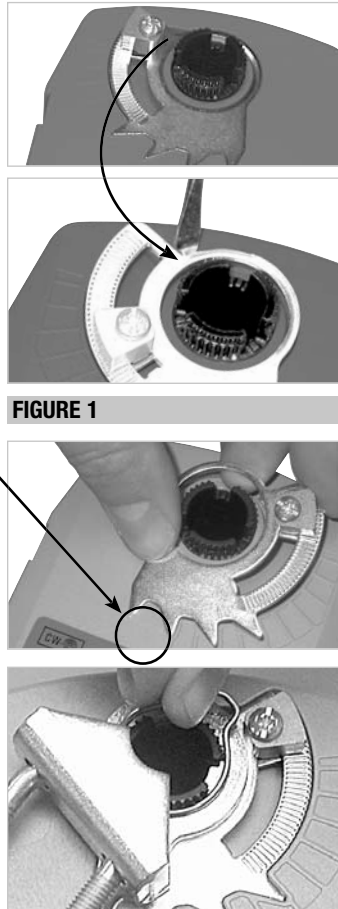

FIGURE 1
1. Remove the stroke limiter by inserting a small screwdriver, like the one shown, and gently prying upward. This procedure takes very little force. See **Figure 1**.